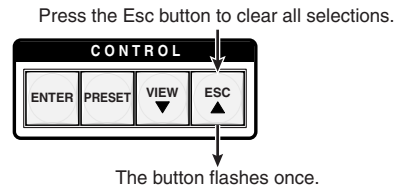

Figure 3-59 — Clear all selections
Figure 3-59 shows the result of pressing the View (▼) button a total of nine times. Note that the level is now displayed in red to indicate a negative level.
1. Press and release the Esc button (figure 3-59).